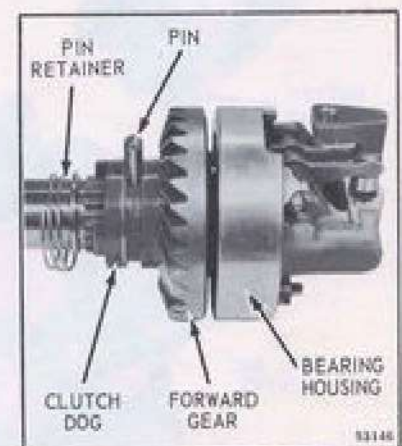

Figure 6-26. Removing Clutch Dog Pin
a. Remove clutch dog pin retainer spring and discard it. Remove pin, clutch dog, and remove propeller shaft, forward gear and bearing, and bearing housing. See Figure 6-26.